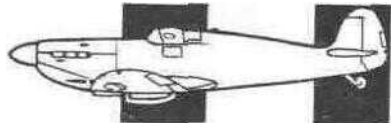

Fig. 4. Slender, streamlined fuselage (Vickers Supermarine "Spitfire")
- (1) Nose taken up by engine (Fig. 4).